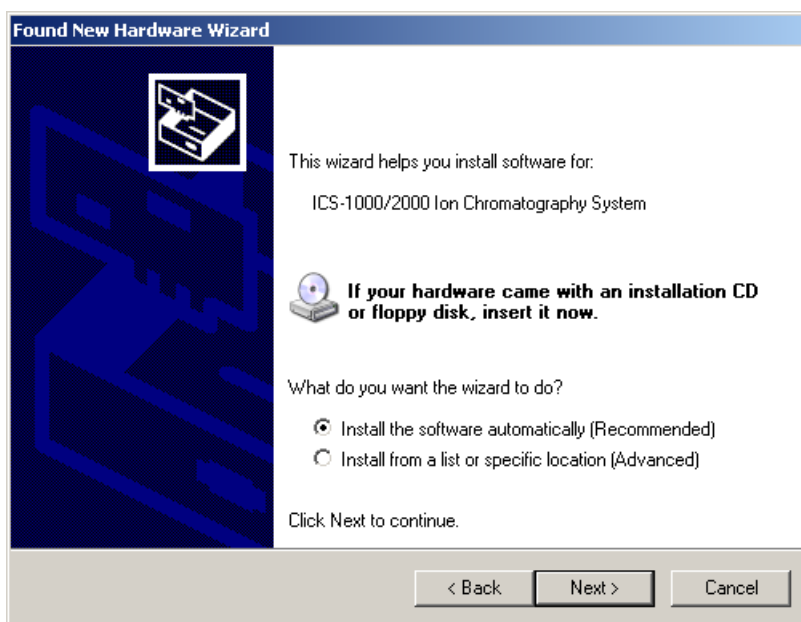

Figure B-10. Windows Found New Hardware Wizard
- It is not necessary to insert a hardware installation CD or floppy disk. When asked, simply select the **Install the software automatically (Recommended)** option (see Figure B-10).